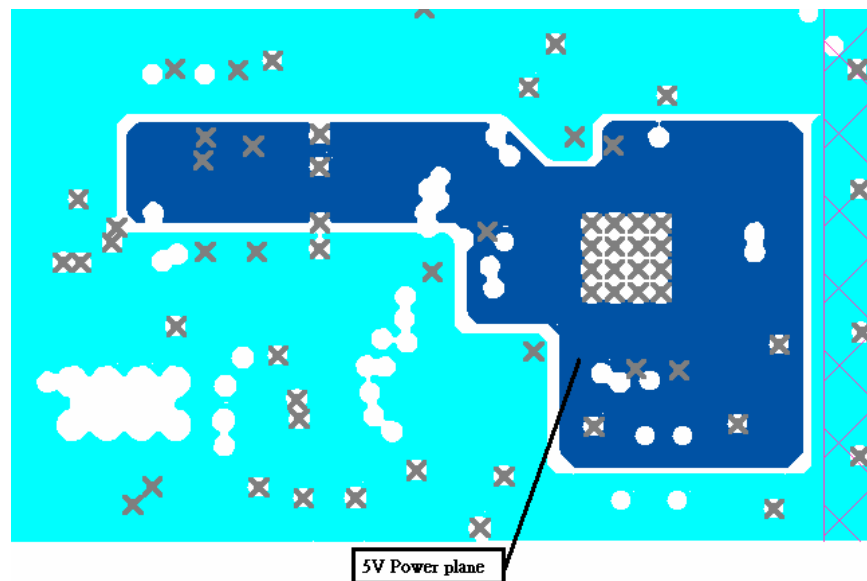

Fig.7 AFE layout (layer 3)
- (1) We recommend 5V power plane layer 3 and circle with AFE GND pad consistently, as show in fig.7